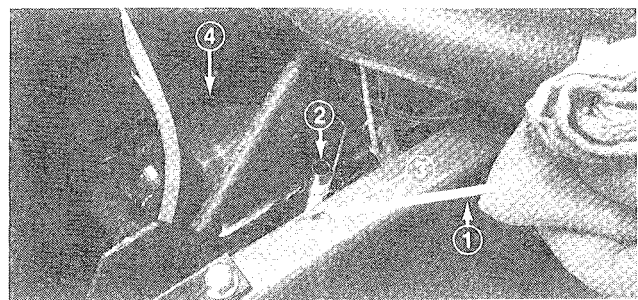

Figure 16
4. Remove dipstick and wipe it with a clean rag (Fig. 16). Push dipstick down into the tube and ensure it is fully seated. Pull dipstick out of the tube and check level of oil. If oil level is low, remove filler cap and add enough oil to raise level to top notch on dipstick (Fig. 16). DO NOT OVERFILL.